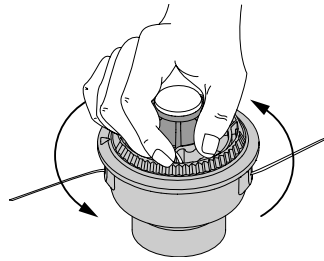

Fig. 19
8. Hold the outer spool. Wind the inner reel counterclockwise until approximately four (4) inches (102 mm) of line remain (Fig. 19).
- If winding the line becomes difficult or if the line jams, pull the ends of the line from the spool (Fig. 19). Continue winding the inner reel counterclockwise until approximately 6 inches of line is left.